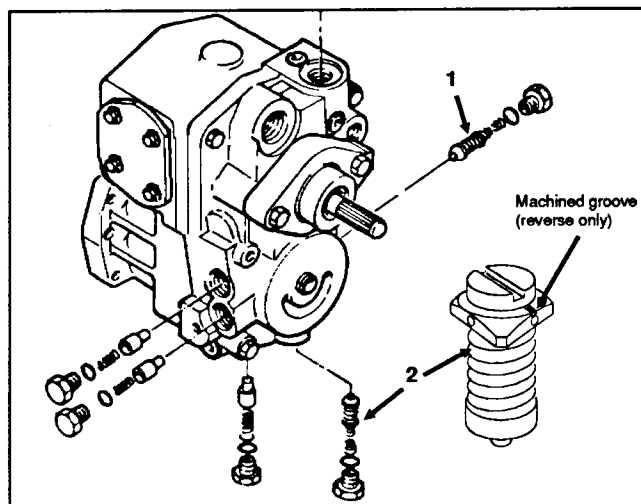

Figure 32
2. Remove the check/high pressure relief valve hex plug (Fig 32).
**NOTE:** The forward and reverse valves are different. The seating surface of the "reverse" check/high pressure relief valve has a machined groove in it (Fig. 32). Installing the "reverse" check/high pressure relief valve in the wrong port may cause performance problems.